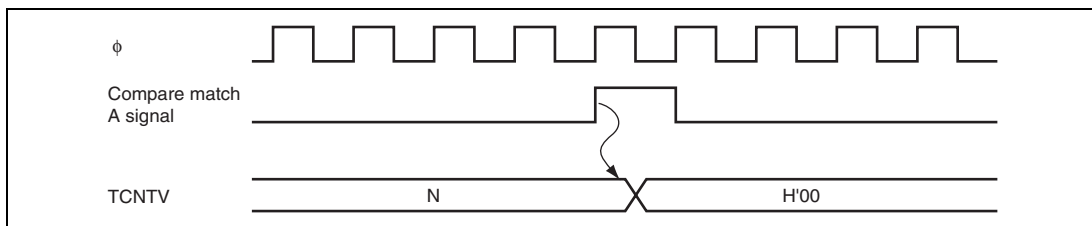

Figure 12.7 Clear Timing by Compare Match
5. When CCLR1 or CCLR0 in TCRV0 is 01 or 10, TCNTV can be cleared by the corresponding compare match. Figure 12.7 shows the timing.